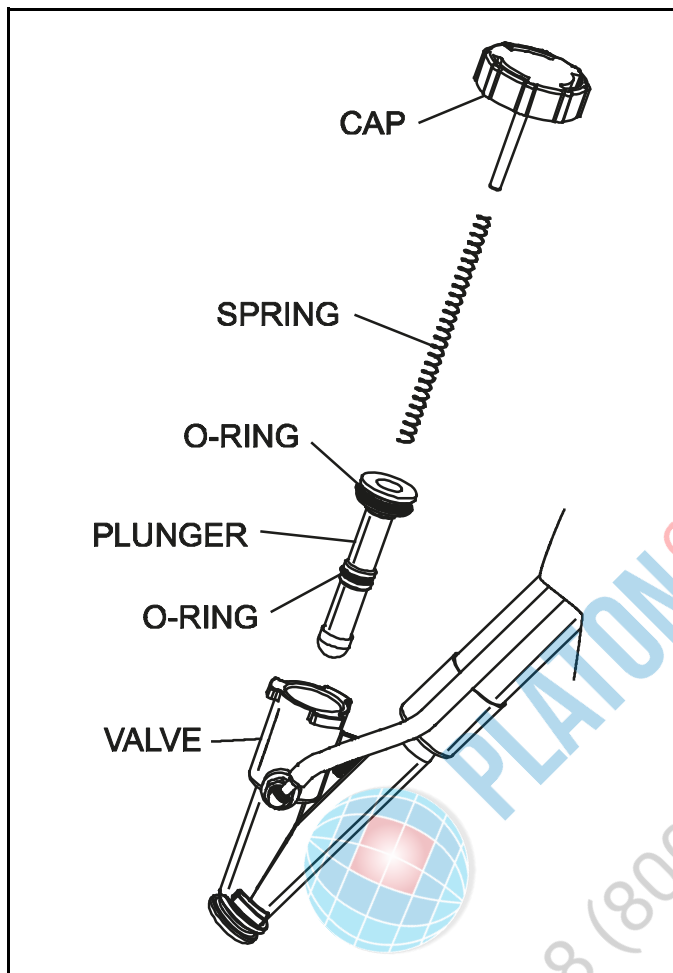

Figure 6-76
- Disassemble the syrup valve. To remove the syrup valve cap, push down and turn counterclockwise. Push the valve plunger out of the syrup valve. (See Figure 6-76.)